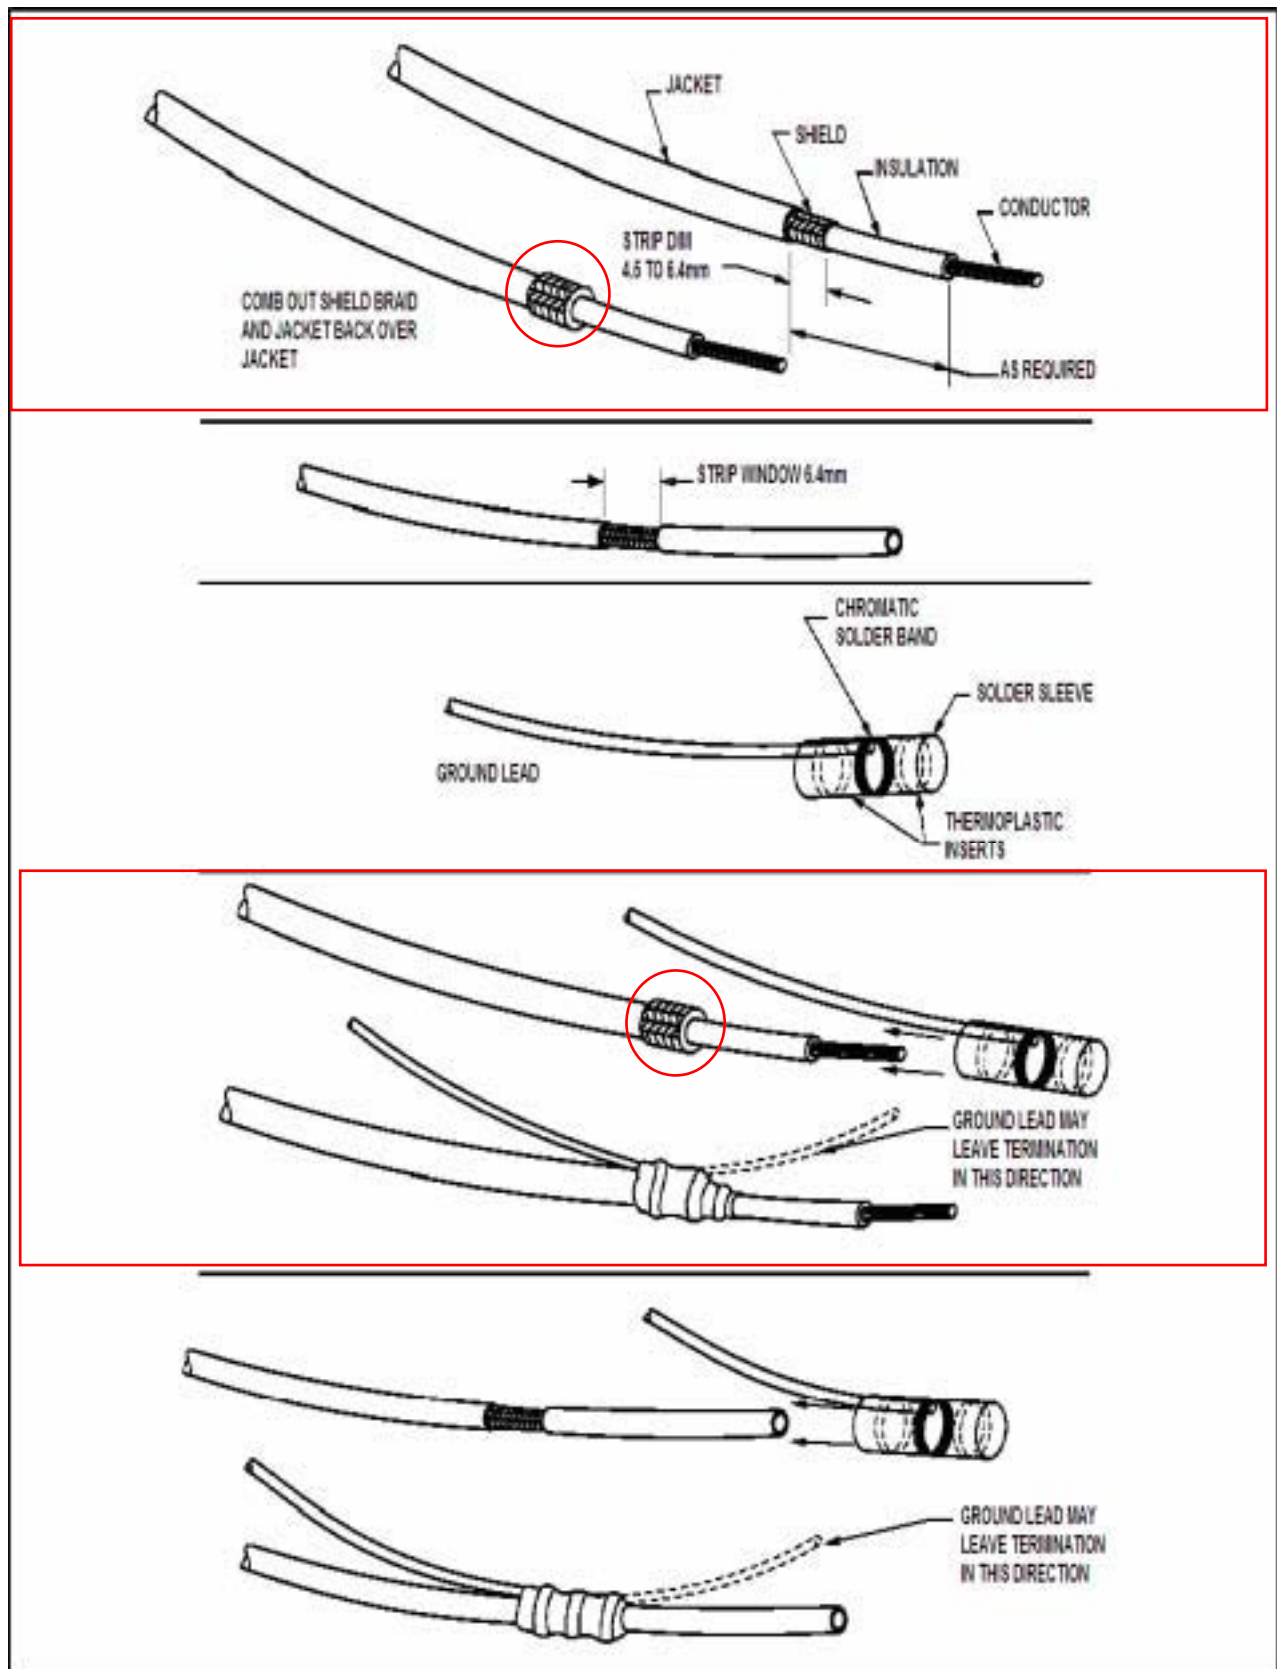

Figure 3-7 Solder Sleeve Shield Termination
- a. Strip the shielded wire as shown in Figure 3-7.
- f. Position the solder sleeve over the assembly so that the solder ring is centred over the shielding as shown in Figure 3-7.